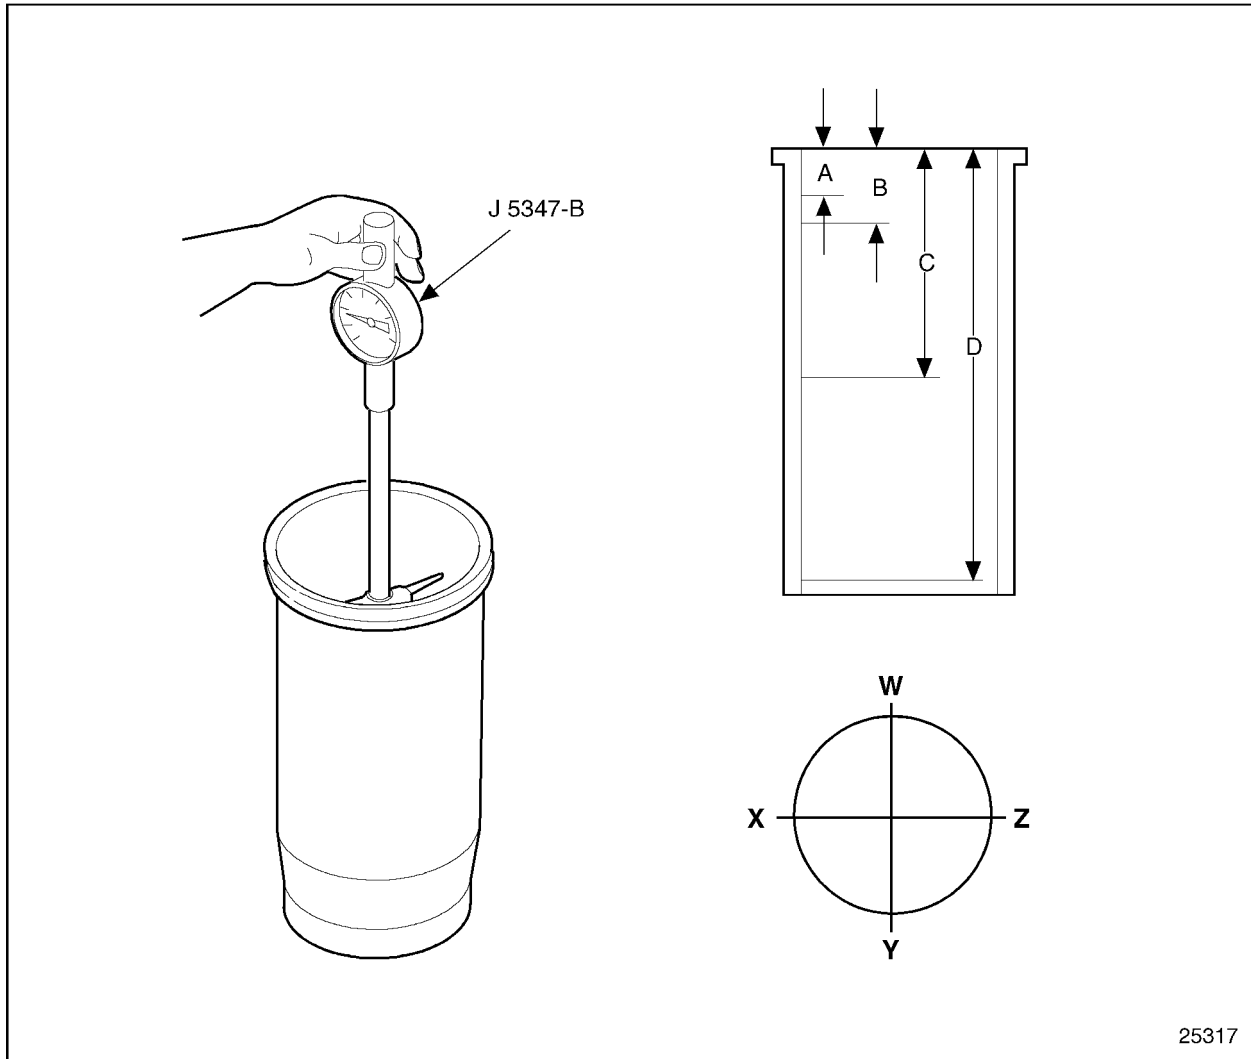

Figure 1-317 Cylinder Liner Measurement Diagram
- [a] Set the cylinder bore gage on zero in master setting fixture. Use cylinder bore gage, J 5347-B, to measure the inside diameter of the liner of various points. The maximum diameter of a used liner is 130.100 mm (5.122 in.) for 12.7 and 11.1 L and 133.100 mm (5.244 in.) for 14L at any measurement location. See Figure 1-317. Also check the liner for taper and out-of-round.